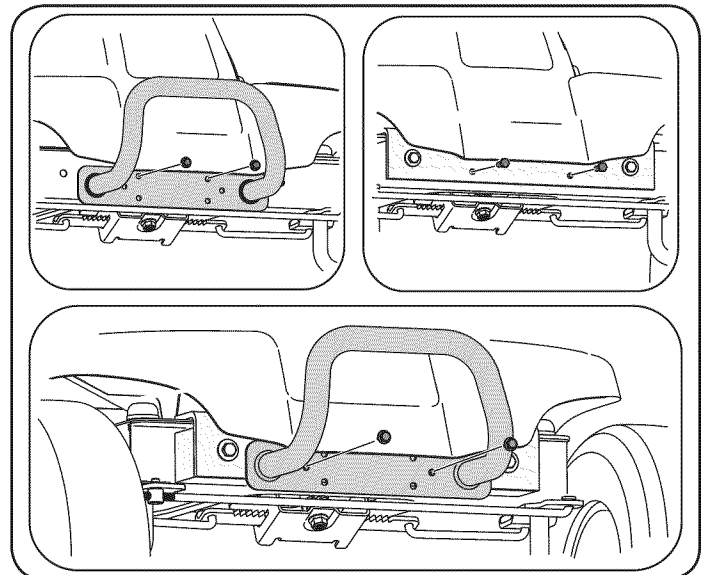

Figure 10
- Remove the two center bolts on the weight bar and mount the bumper to the weight bar using the hardware just removed. See Fig. 10.